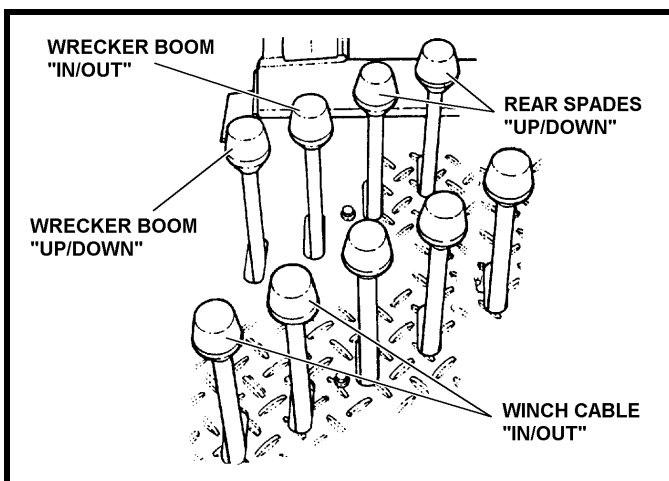

FIGURE 3.2
- 3.2 Each function of the Wrecker can be controlled from either of the dual Control Stations located at the rear of the wrecker body. See Figure 3.2.